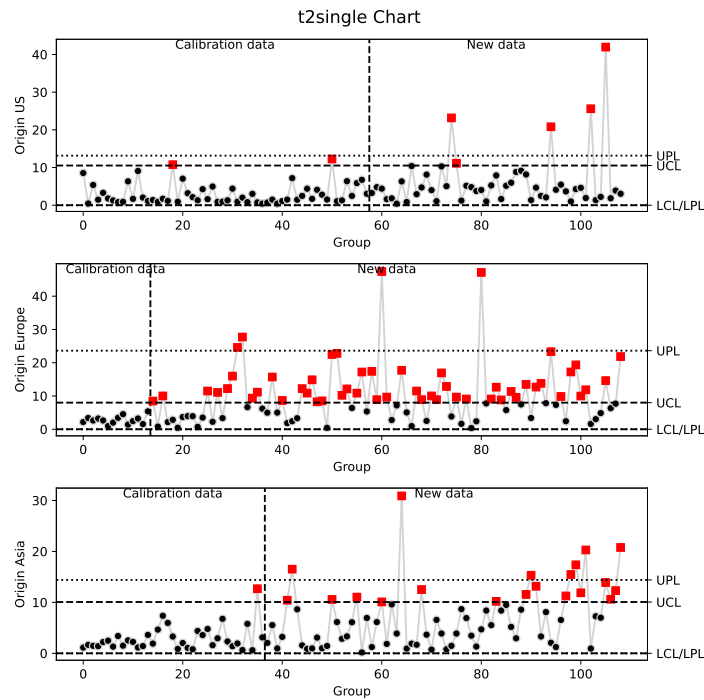

Fig. 4.4:  $T^2$  charts for the **CAR** dataset using subsets based on number of cylinders to derive internal targets (Exercise 4.4)
**Solution 4.4** Create  $T^2$  chart using separate computations based on origin. The chart is shown in Fig. 4.4.